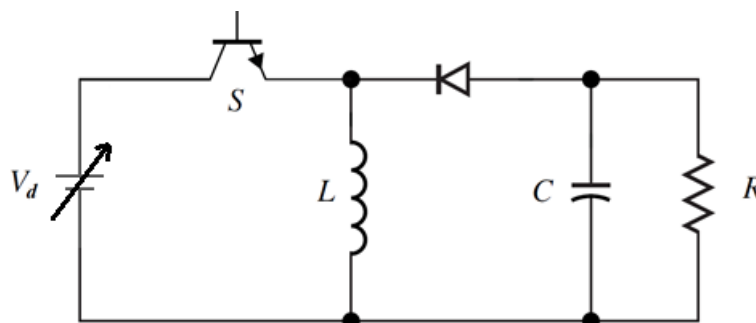

Fig. 1
A variable dc voltage source (V_d) is connected to the buck-boost converter as shown in Fig.1. The output voltage across the resistive load R is maintained at -12 V by varying the duty cycle (D) of the converter between 0.46 and 0.545. The power rating of the resistor (R) is 15 W. The inductance of L is 1.25 times the value of the inductance required to ensure the converter's continuous conduction. The switching frequency of the converter is 50 kHz. The output voltage ripple (ΔV_o) must be less than 1 percent of the output voltage. Answer the following questions: